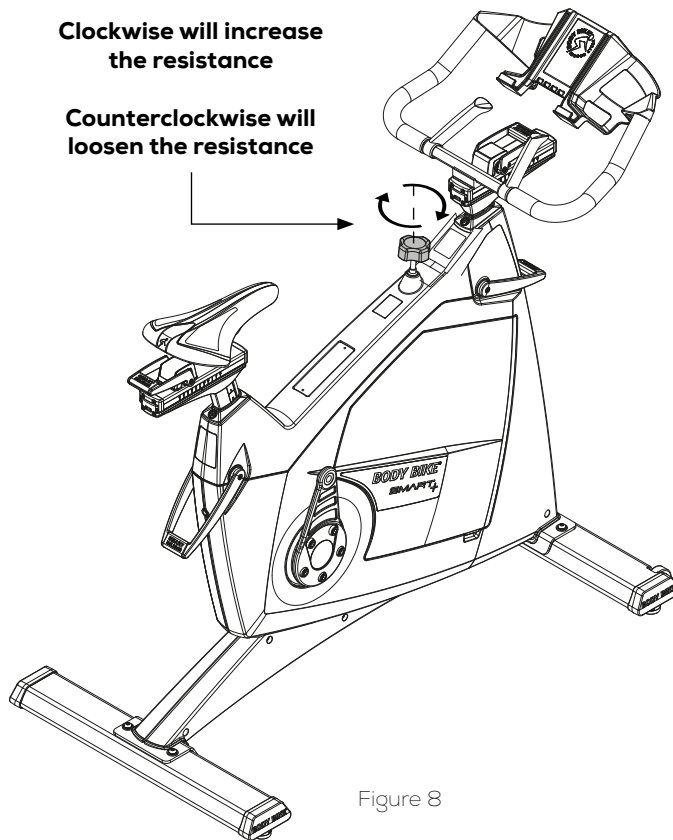

Figure 8
- 2) Put maximum resistance on the brake, so the pedal arm is unable to rotate, see figure 8.